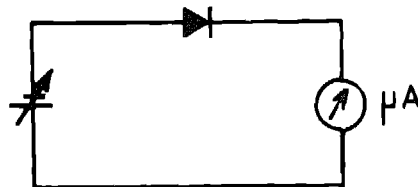

Fig. 6.3 (a)
**Procedure** 1. To find the reverse characteristics of the diode, connect the circuit as shown in Fig. 6.3 (a).